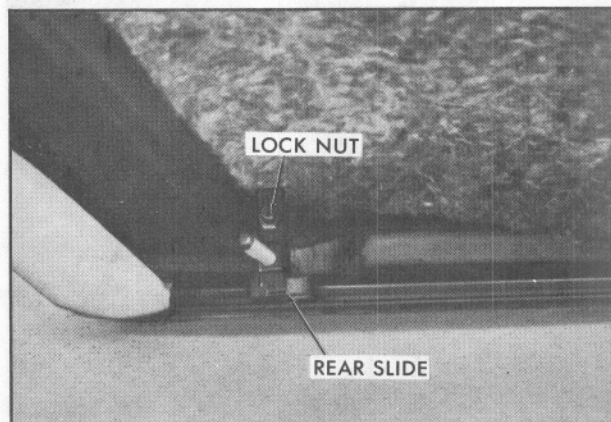

Fig. 15-25 Rear Panel Alignment
1. To obtain a flush fit with the roof on one side of rear of roof panel, loosen 3/8" locknut on rear slide, Fig. 15-25.